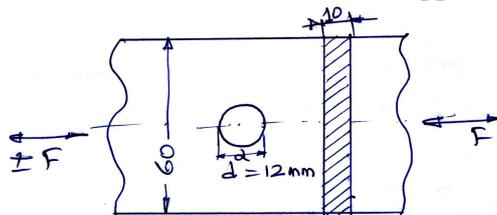

Fig.Q3(c)
- A portion of machine member shown in Fig.Q3(c). It is loaded by completely reversed axial load 'F', which are uniformly distributed across the width. The material is cold-drawn steel with yield stress  $\rho_{yt} = 385 \text{ MPa}$ , and ultimate strength  $\rho_{ut} = 530 \text{ MPa}$  for 90% reliability and infinite life, determine the maximum force 'F' that can be applied.